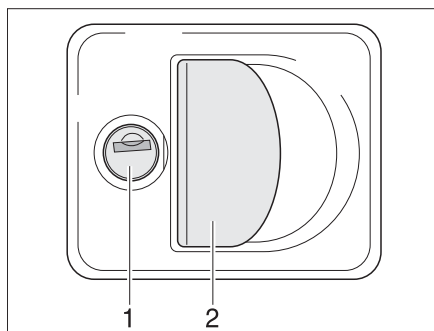

Fig. 49 Flap lock with recessed handle
- Insert key into locking cylinder (Fig. 49,1) and turn a quarter turn. The flap lock is unlatched.
- Pull on the lock handle (Fig. 49,2). The external flap is open.